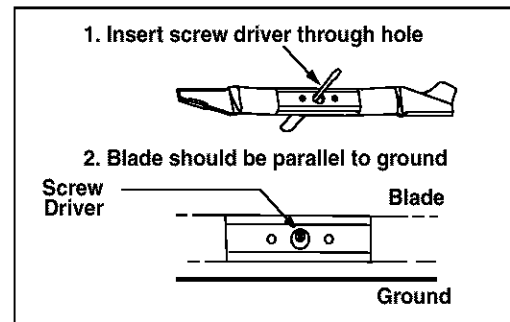

Figure 15
- Test the blade by balancing it on a round shaft screwdriver. See Figure 15.